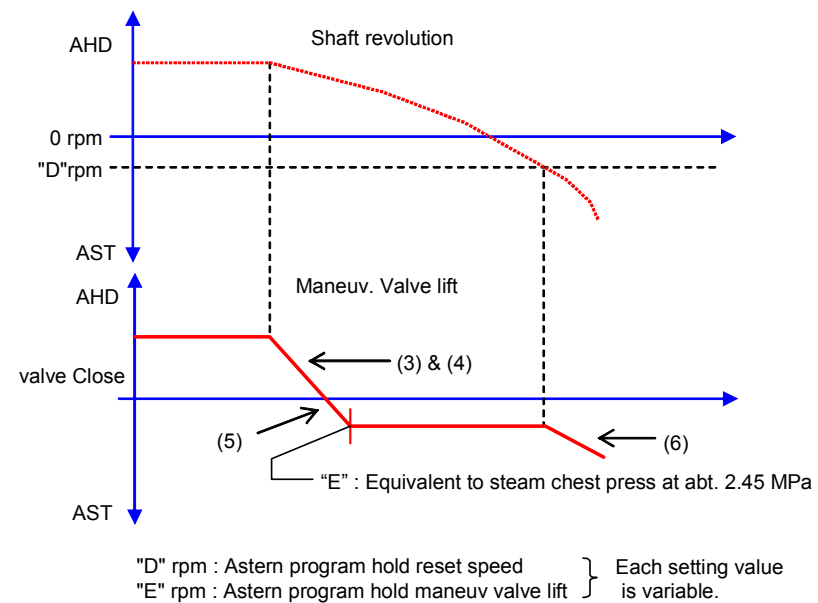

Figure 1-7 Manoeuvring Valve Lift In Reversing Operation (Ahead to Astern)
- i) The ahead manoeuvring valve is closed in accordance with the deceleration profile (3) and (4) of Figure 1-7.
- ii) The astern manoeuvring valve is opened to the position equivalent to AST. E RPM in accordance with the acceleration profile (5) of Figure 1-7, and break steam is supplied. When the propeller revolution reaches D RPM, further acceleration is performed again to the astern side.